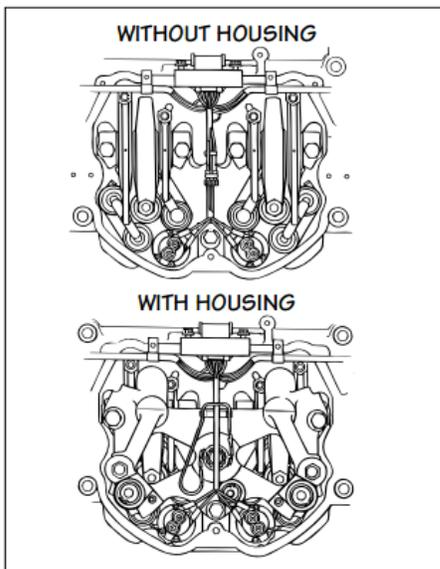

FIG. 15
2. Connect both solenoid lead wires to the terminal lead outs on the solenoids (see Fig. 15).